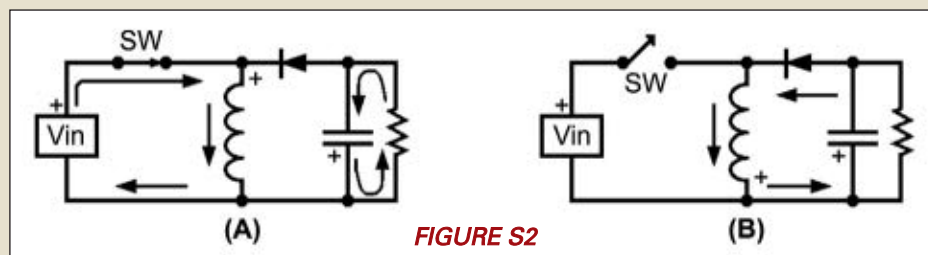

FIGURE S2
of the input voltage, with respect to the common ground. That changes with the buck-boost circuit shown in Figure S2. In (A), the switch is closed, the diode is reverse-biased, and the inductor charges up. In (B), the switch opens and the collapsing magnetic field of the inductor produces a voltage that charges up the capacitor so that the output voltage is negative, with respect to ground even though the input voltage was positive. The magnitude of V_{out} depends on the duty cycle (d). If $d < 0.5$, then $|V_{out}| < |V_{in}|$. If $d > 0.5$, then $|V_{out}| > |V_{in}|$. As before, the duty cycle is controlled by a feedback loop not shown in Figure S2.